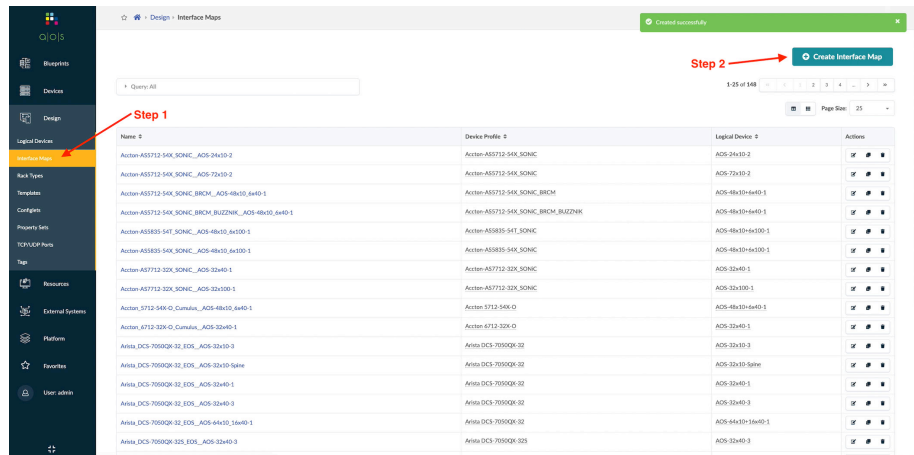

Figure 3.6 Creating Interface Mappings in Apstra
Step 1: Go to Design > Interface Maps. See Figure 3.6.